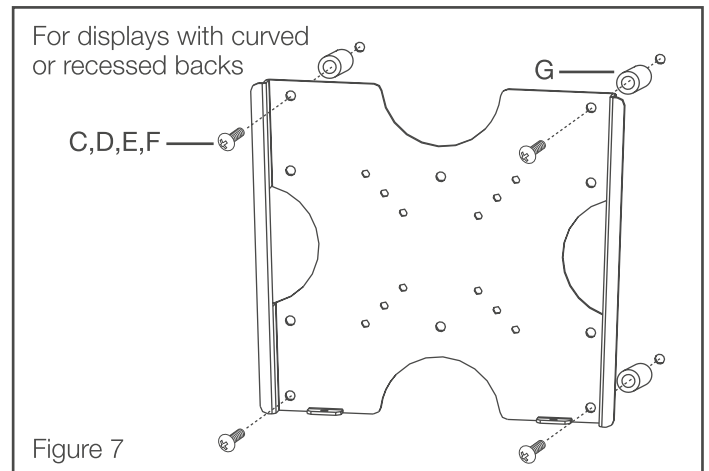

Figure 7
4. Once the bolts have been identified, gently put your TV Wall Mount on the back of the TV so that the mounting holes are showing the TV Wall Mount. If the back of your TV is curved or recessed you will need to use a spacer (G) to clear the space (see Figure 7). If using spacers you will now need to use longer bolts. Remember that the bolt needs to turn at least 3 full turns.